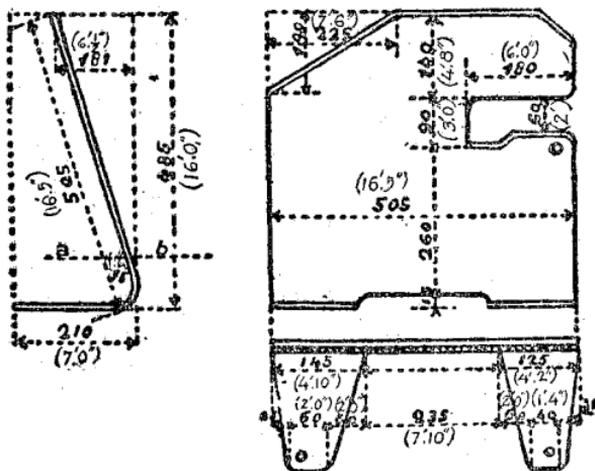

FIG. 151.—Individual offensive shield.
3. Individual offensive shield (fig. 151).—Of special sheet steel, lighter than the parapet shield. While intended to be used on the open ground it is often used in the same manner as the first. Moreover a continuous screen of these shields may be used as protection in beginning a trench. Protection against